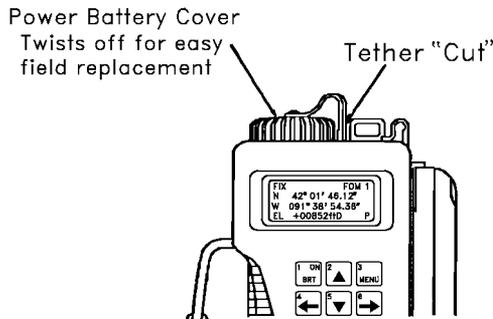

Figure 8-7 Prime Battery Cap Assembly and Tether "Cut" Location.
- b. Using a knife, cut prime battery cap tether at the edge of the tether metal insert (refer to Figure 8-7). This tether holds the prime battery cap to the PLGR.